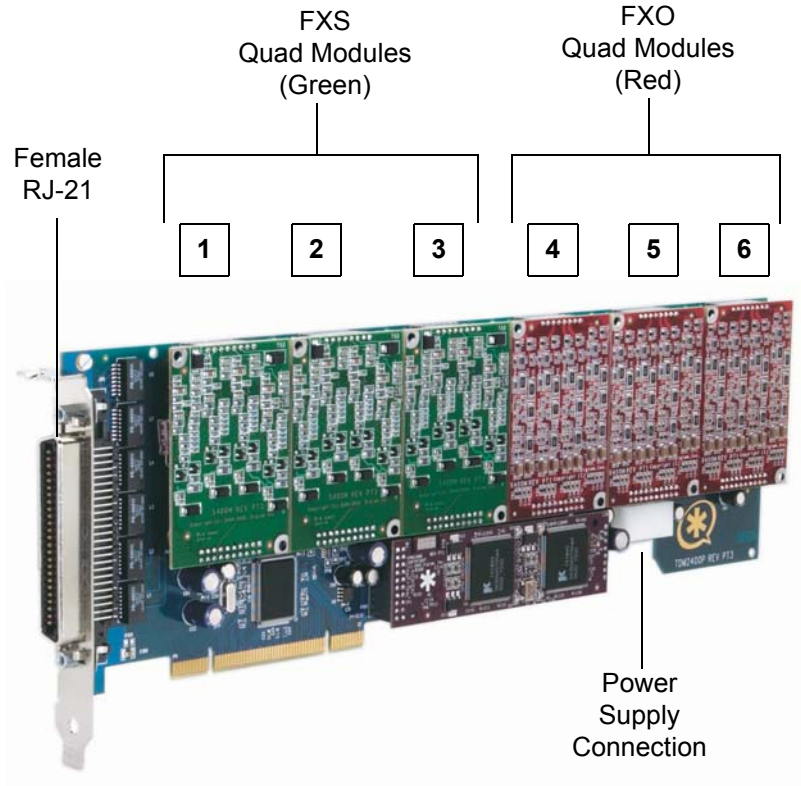

Figure 5: TDM2400P Card (Model TDM2433E)
- Figure 5: TDM2400P Card (Model TDM2433E)23
See Figure 5 on page 23 for an example of the card shown with three of each quad module.